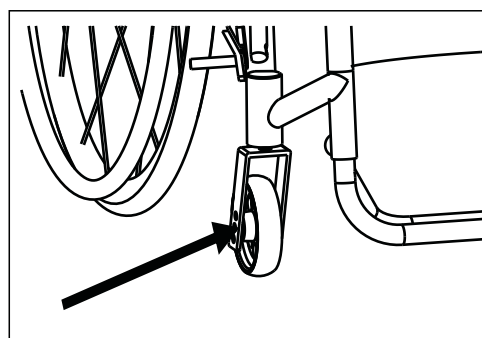

Fig.43. Front wheel
- Check the space between the fork and front wheel marked with an arrow in Figure 43, for a build up of dirt or foreign bodies, which can cause the accelerated wear of the front wheel bearings. The front wheel must be removed by unscrewing it from the fork, remove any impurities, and then lubricate with a light mineral grease.